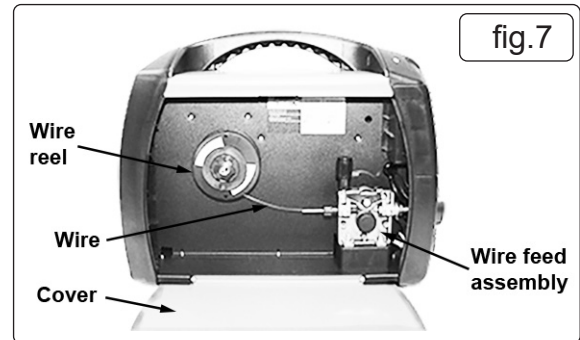

fig.7
- 5.5.2. Slide the wire reel onto the reel holder (fig.7).
- 5.5.3. Reattach the star knob, spring and retaining disc and fully tighten (fig.7).
- 5.5.4. Ensure that the wire is spooling off from the bottom of the wire reel in the direction of the wire drive unit (fig.7).
- 5.6.4. Straighten 50-100mm of wire and gently push it through the flexible metal sheathed cable (fig.7) over the feed roller groove and then into the torch cable liner.